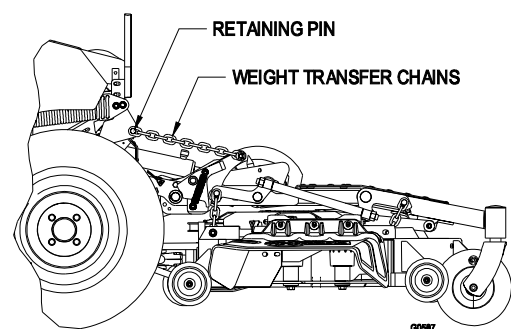

FIGURE 4
3.1.10 Retract the cylinder to fold the deck upward. Reattach weight transfer chains. It is very important not to twist the chains. Lock the chains onto the pin by inserting the cotter hairpin. (See Figure 4)